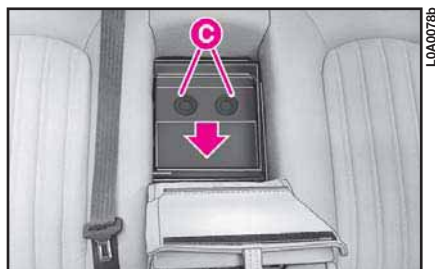

fig. 206
3) Open the flap by pressing buttons **C** (fig. 206).